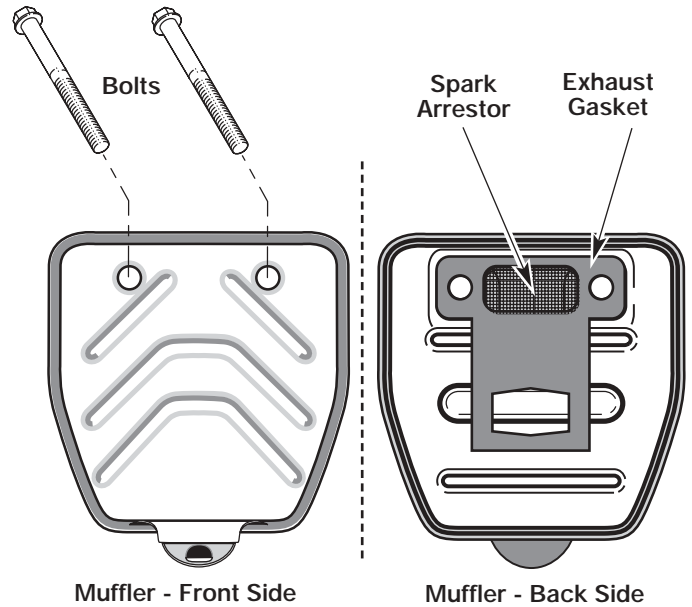

Fig. 39
2. Locate the muffler front and the two (2) bolts securing it to the engine (Fig. 39). Remove the two (2) bolts using a flatblade screwdriver or 5/16-inch socket or nut driver. Pull the muffler off of the engine.
3. Turn the muffler over to the back side and locate the exhaust gasket. Remove the exhaust gasket from the muffler (Fig. 39).
7. Place the exhaust gasket against the muffler's back side. Align the exhaust gasket bolt holes with the bolt holes in the muffler. While holding the exhaust gasket in place, insert bolts into muffler's front side (Fig. 39).